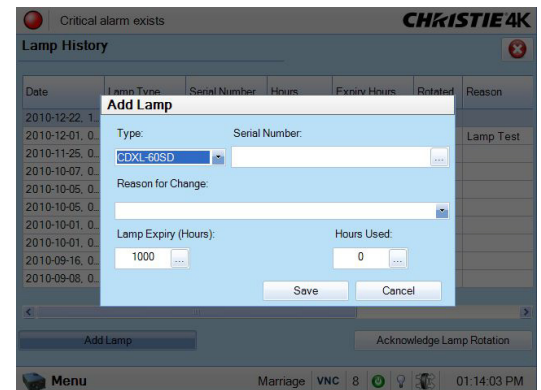

Figure 7-4 Add Lamp Window
18. In the **Advanced Setup: Lamp History** window, click the **Add Lamp** button and record lamp type, serial number, reason for change and number of the hours logged on to the lamp. If the lamp has not been previously used, enter 0. Click **Save** to save the data entered. (**Figure 7-4**)